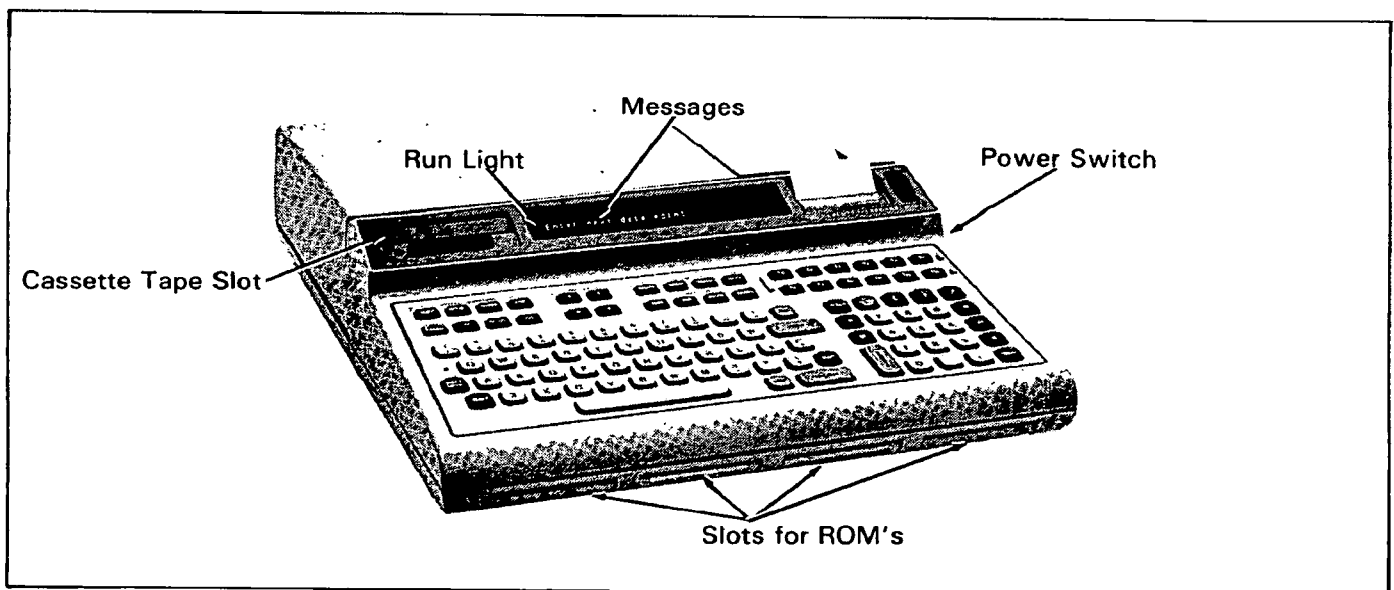

Figure 4-4. HP 9825A Calculator
- b. Insert the calculator ROM's described in the Recommended Test Equipment list, Table 4-1, and into the slots under the calculator keyboard (see Figure 4-4).